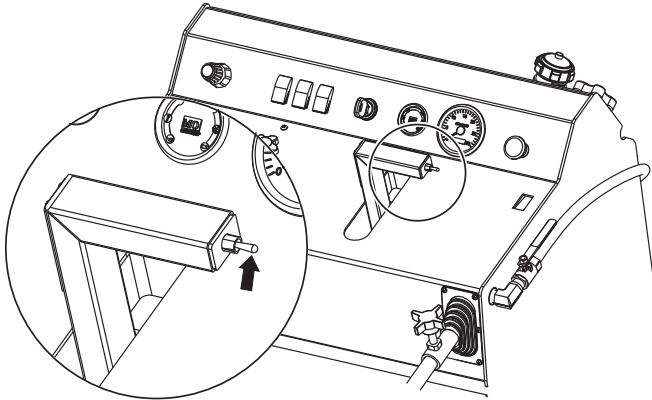

Figure 27. Raise-Lower Control Toggle Switch
1. To lower the blade, push the toggle switch located on the end of the control handle FORWARD (Figure 27).